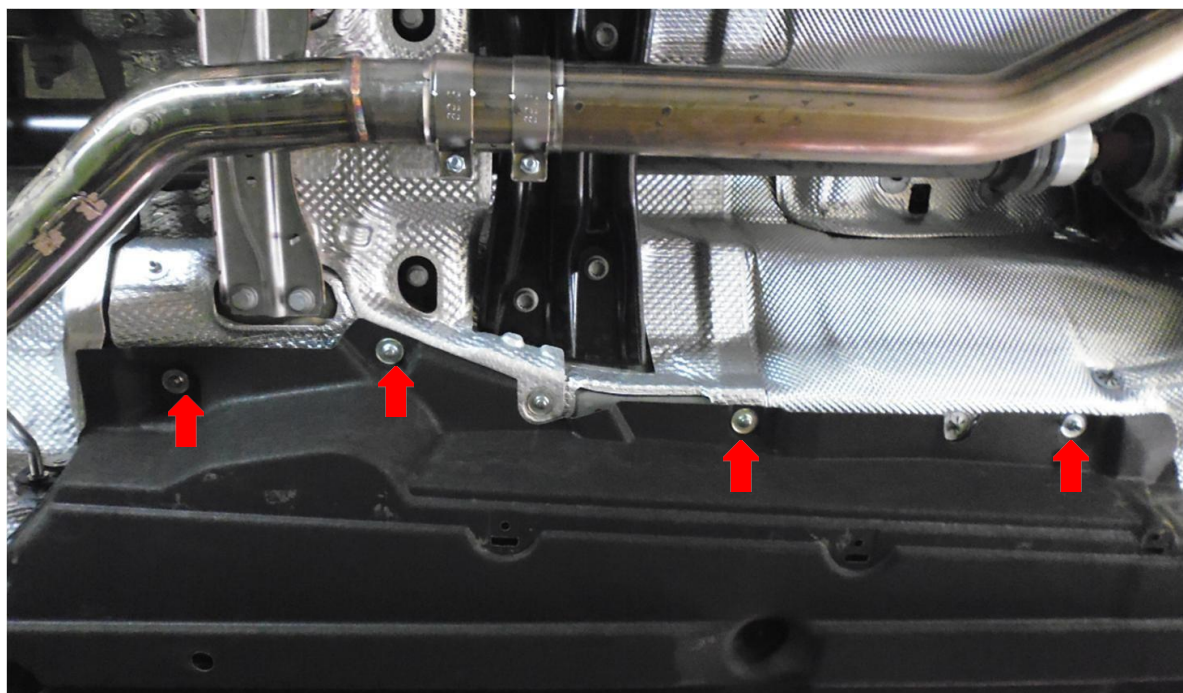
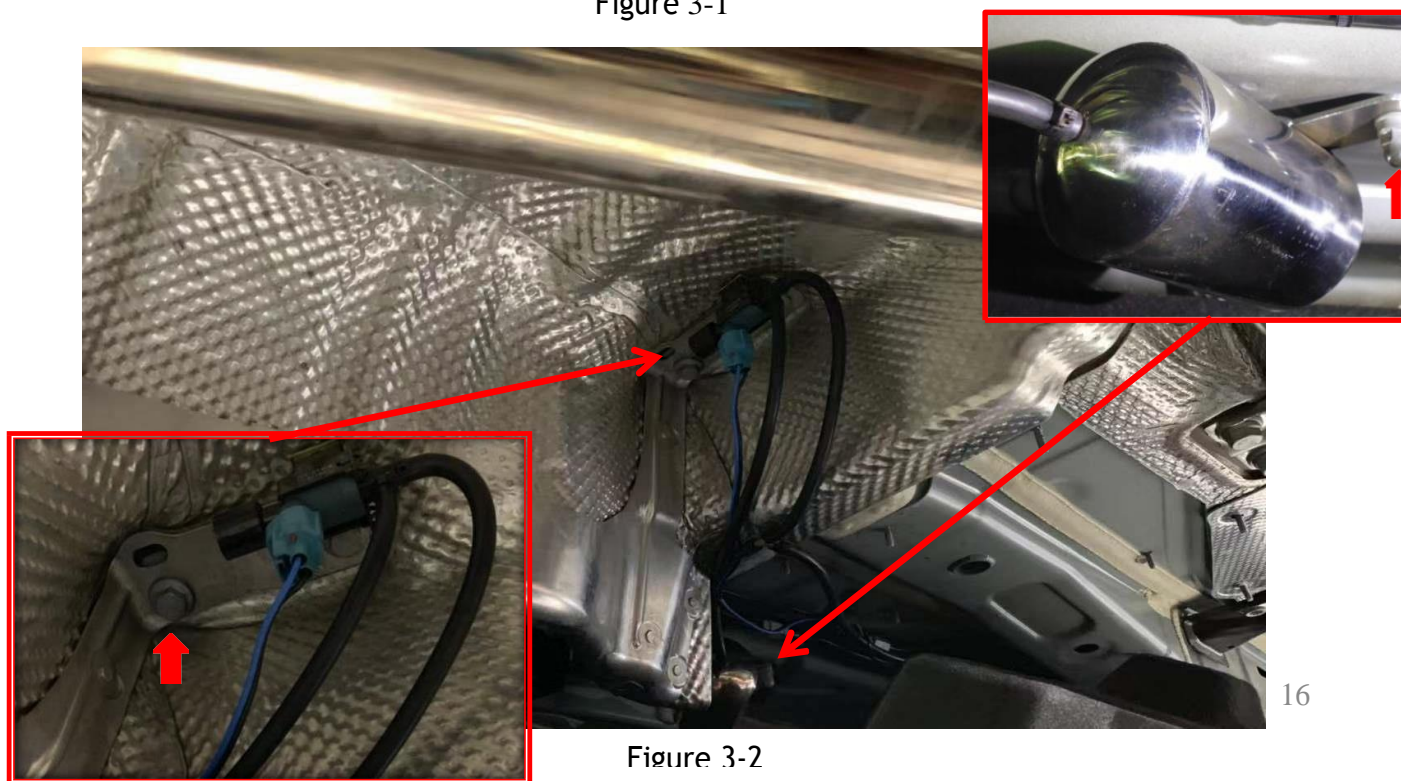

Figure 3-1
Figure 3-2
1. Remove the left guard screw (Figure 3-1) and install the pressure storage reservoir and solenoid valve (Figure 3-2).